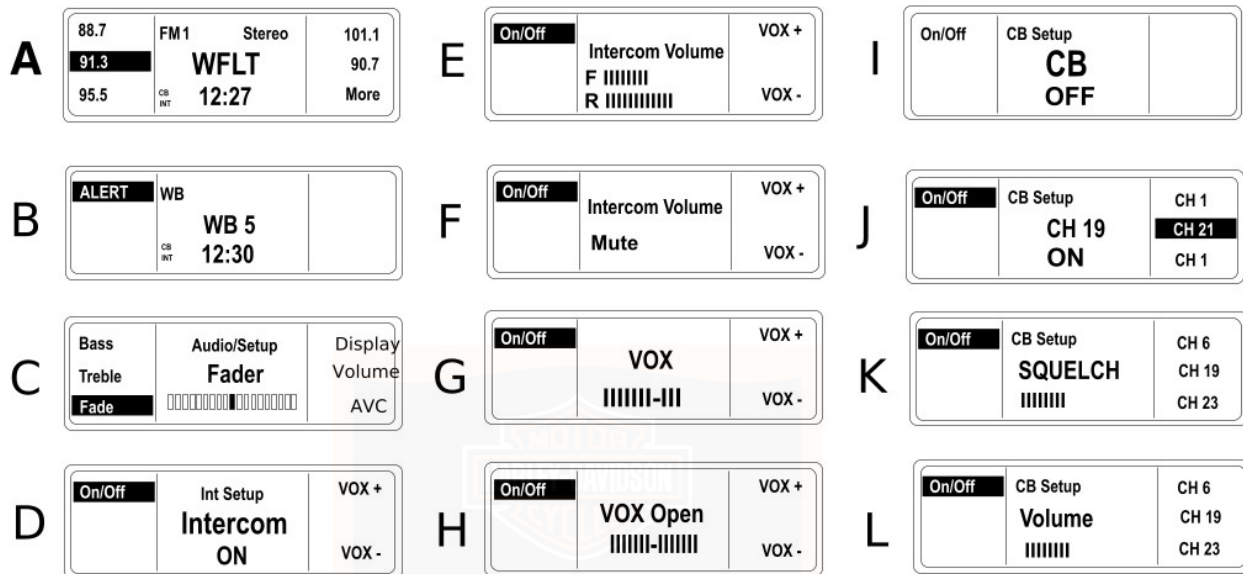

Figure 37. Display Examples
See D in Figure 37. To activate the intercom (INT) and the VOX microphones, press soft key **1** to turn the intercom ON.
See G in Figure 37. Press the **MODE SEL** switch **UP** or **DN** or press the **4** or **5** soft key to initiate the VOX display. The LCD displays VOX sensitivity as a bar graph with a smaller bar to indicate the center of the 14 bars. A higher number of bars indicates greater sensitivity while a lower number means less sensitivity.
See E in Figure 37. Enter Intercom Setup, speak into microphone and adjust the intercom volume with the **AUDIO** switch on the left hand grip. Press **AUDIO +** to raise the volume and **AUDIO -** to lower the volume. The LCD displays a dashed line that changes length with the level.
See F in Figure 37. When the headset volume has been adjusted to the bottom of its range, Mute will appear in the volume display.
See H and I in Figure 37. To activate the Citizen Band transceiver, press and release the **COM** pushbutton on the front panel. Press soft key **1** to turn the CB ON/OFF. The CB will activate in CB Setup with squelch threshold and channel settings from the previous use. CB channels are selected in CB Setup.
See J in Figure 37. With the CB on, press **COM** to enter CB Setup. The LCD displays CB SETUP in the upper half and the CB channel appears in the lower half.
See K in Figure 37. When squelch is interrupted, the CB in the display inverts. If the squelch is not interrupted and the another source is playing, CB is displayed.
See J in Figure 37. Up to 3 CB channels can be preset. Press and hold a soft key (4, 5, 6) to preset a CB channel.
See K in Figure 37. The CB signal is passed to the speakers or headsets only if signal strength exceeds the threshold set with the squelch control switch (**PTT/+SQ/-**). When CB signals exceed the threshold, they are said to "break squelch." Refer to Table 26.
Refer to Table 27. See L in Figure 37. To adjust volume of the CB in the speakers or headset, Press **AUDIO +** to raise the volume or **AUDIO -** to lower the volume. CB volume is adjustable when squelch is interrupted or when the display is in CB Setup.